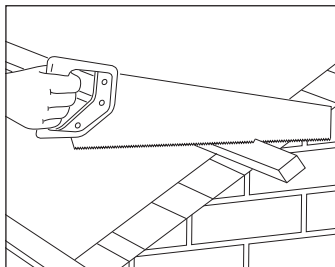

Fig. 1 – Preparing gable end
- 1 Ensure the gable end is reasonably level and free from projections. The roofing underlay and tiling battens should be laid across the cavity/gable ladder and the battens finished flush with the outer wall or outer edge of the bargeboard (Fig. 1). The verge extrusion is fitted prior to tiling.